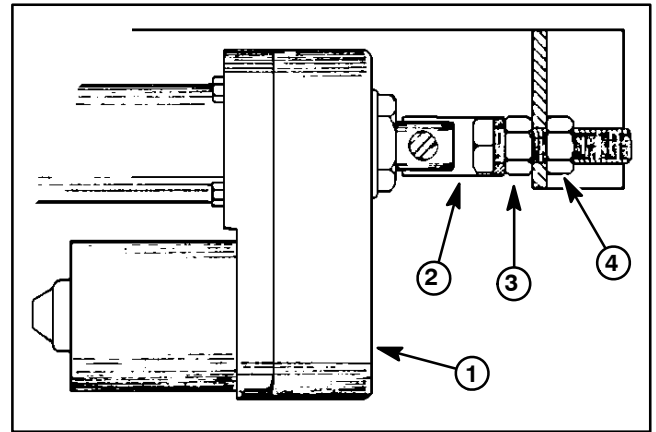

Figure 51
1. Loosen end nut that secures adjustable clevis to boom frame (Fig. 51). Position jam nut as close as possible to adjustable clevis. Tighten end nut to secure clevis.